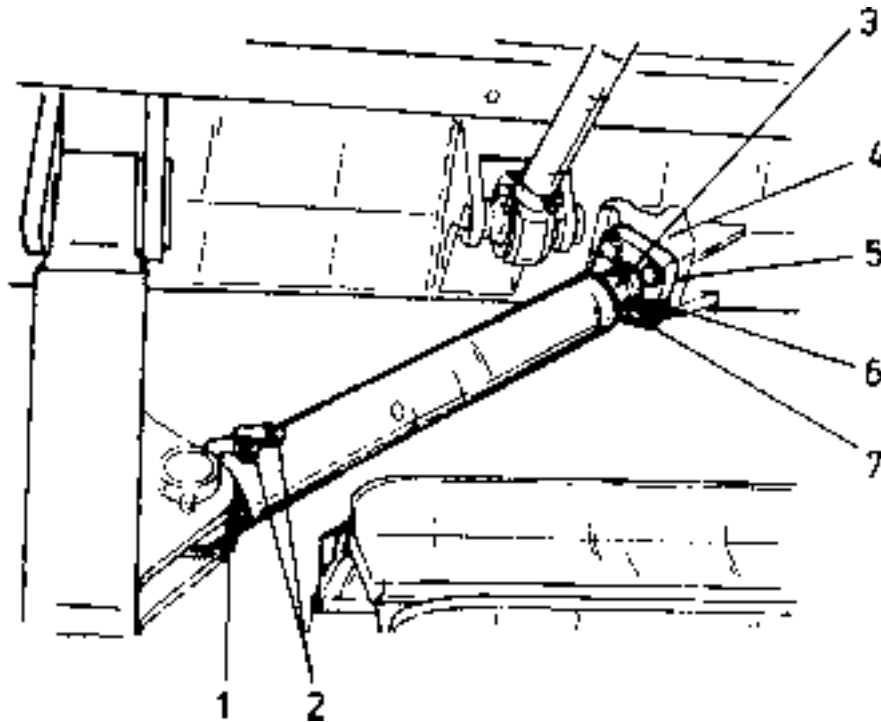

Fig. 5.38. Installing the Diagonal Strut
**5.15.2. DIAGONAL STRUTS ADJUSTMENT (Fig. 5.38)**